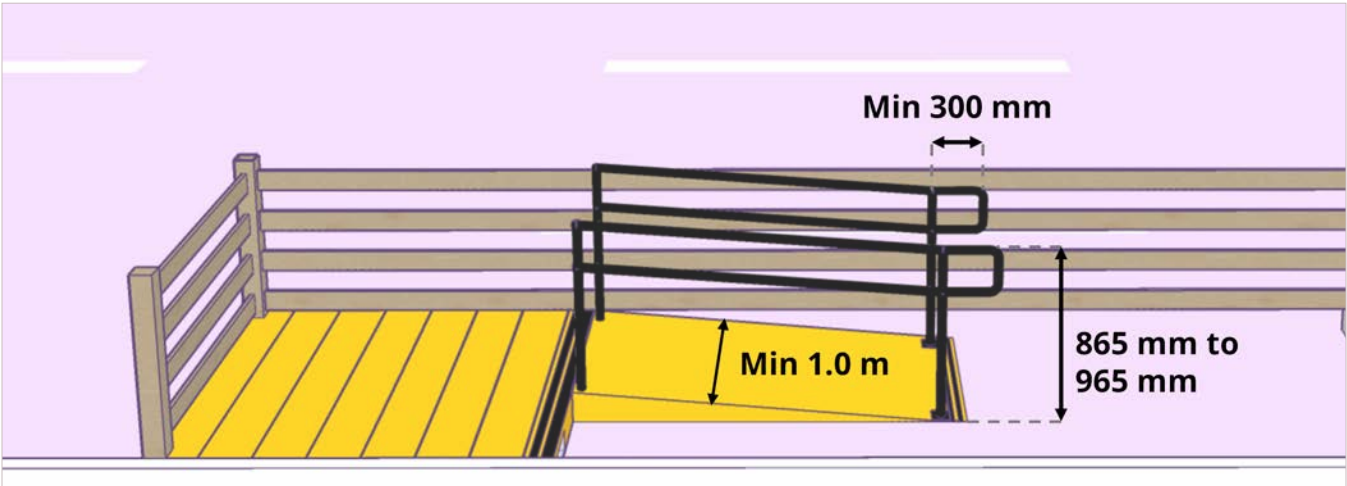

Figure 24: Ramp handrails
- a. Height of the ramp handrails must be between **865 mm** and **965 mm** (see Figure 24).
- b. Handrail must extend at least **300 mm** at the bottom of the ramp, but only **100 mm** of this extension can be within the landing space at the bottom of the ramp (see Figure 24).